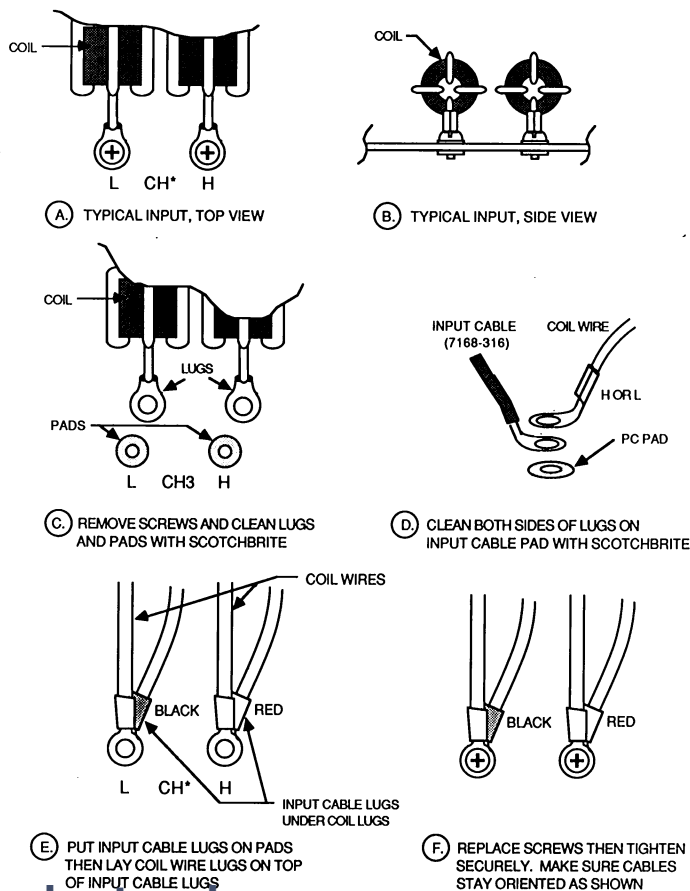

Figure 2-6. Detail of Input Connections
3. Route all connecting wires between the rubber strips of the cable clamp and the card lugs as shown in Figure 2-6(D).
- 5. Connect the input cables to the H and L terminals of the respective channels as follows (see Figure 2-6 for details).
- C. Put the input cable lugs on top of the circuit board pads with the orientation shown in Figure 2-6(E).
- D. Place the coil wire lugs on top of the input cable lugs (see Figure 2-6(E) for orientation).